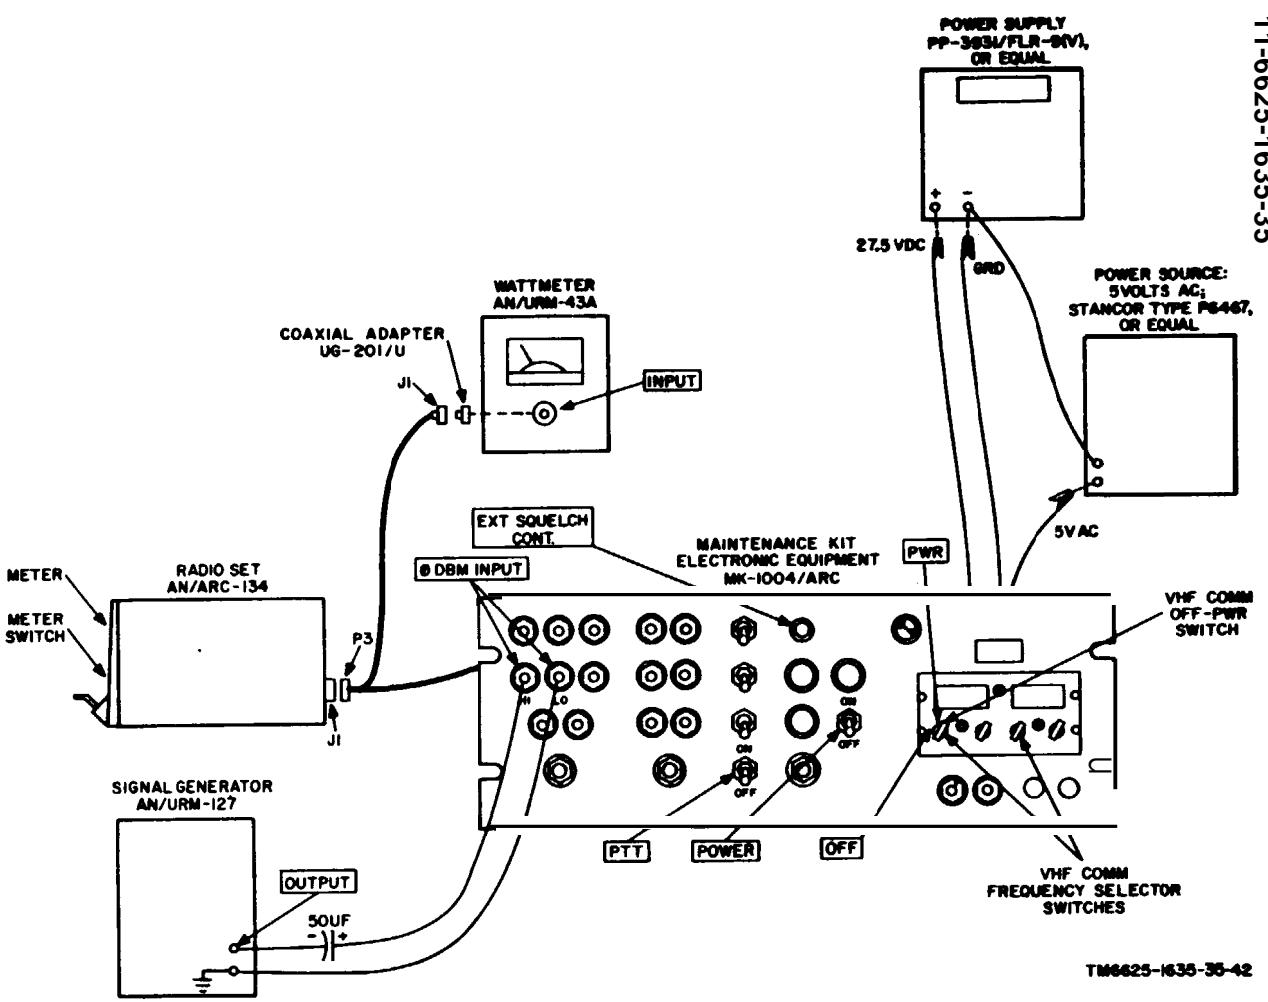

Figure 4-6. Modulation check, 0 DBM, INPUT circuit, test setup, unmodified maintenance kit.
- (1) Radio Set AN/ARC-134.
- (2) Power supply.
- (3) Ac power source (unmodified equipment).
- (4) Wattmeter, Radio Frequency AN/URM-43A.
- (5) Generator, Signal AN/URM-127.
- (6) Adapter.
- (7) Capacitor, 50 μ f, 25-vdc.
b. Test Connection and Conditions. Connect the equipment as shown in figure 4-6 or 4-6.1. On modified equipment, place the C-1611D/AIC PVT-INT switch in position 3, the RECEIVERS 3 switch ON, all other RECEIVERS switches off, and position the VOL control as required. These settings must be maintained during the test.